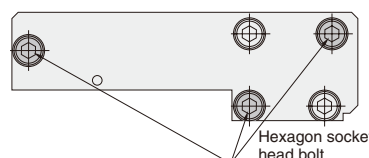

Figure 1
2. To remove the intermediate stopper unit in order to change its direction, remove the cover and side cover, loosen the hexagon socket head bolts at 3 locations on the intermediate stopper unit body, as shown in **Figure 1**, and then remove the unit.